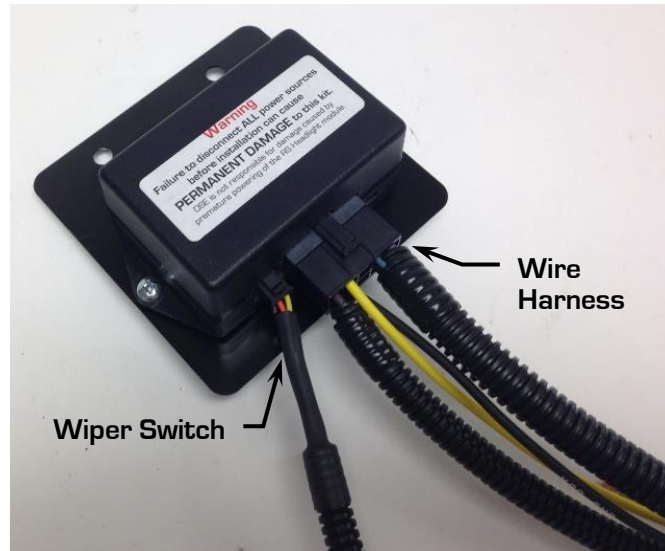

Figure 20– Connect Wiper Switch & Harness to Module
31. With the wiper control module in place, plug in the wiper switch and wiring harness connectors into the control module (Figure 20).